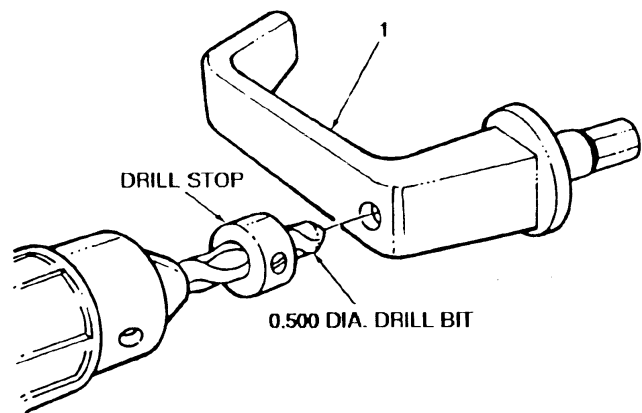

FIGURE 3-9
4. Using a 0.500-inch diameter drill bit, countersink outer handle (1). (see figure 3-9)